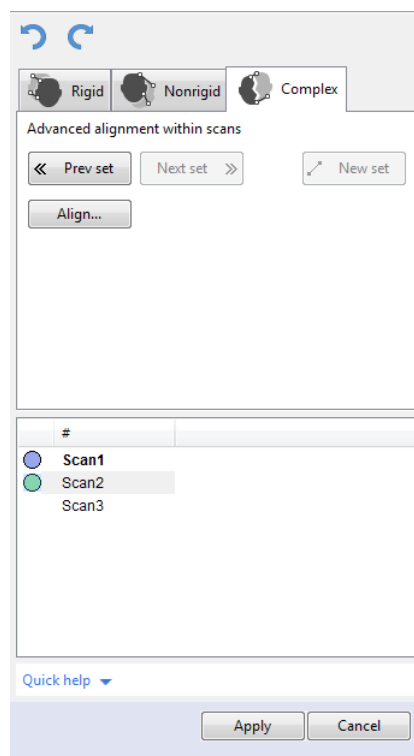

Figure 8.25: *Align* panel: *Complex* tab.
1. Make sure the *Complex* tab is selected (see Figure 8.25).